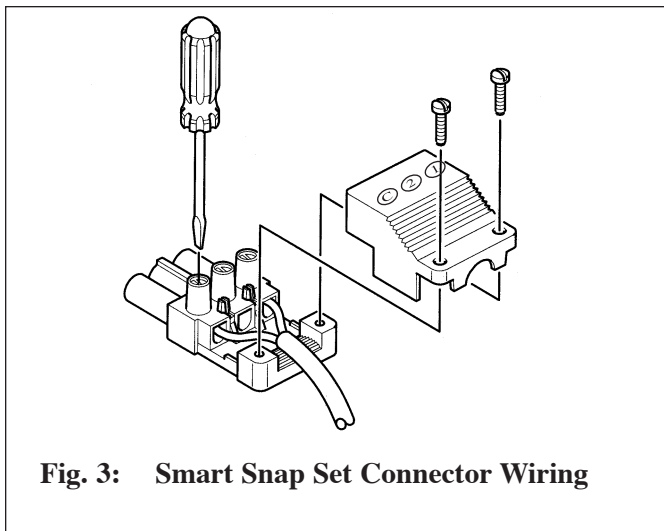

Fig. 3: Smart Snap Set Connector Wiring
2. With the Snap-set plug cover removed, connect 18 gauge wire or thermostat type wire to the end terminals C and 1 of the plug. The wire ends should be stripped and attached securely to the terminals. See Figure 3.